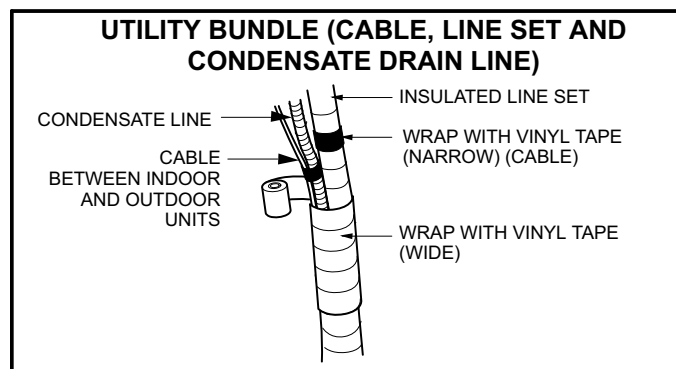

FIGURE 45
5. Start from the bottom of the bundle at the outdoor unit and use tape to bundle the condensate line with the control wiring and line set (figure 45).